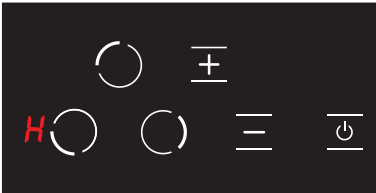

Figure 27
4. Unit switches to stand-by mode after these procedures. However, the **H** icon shall be displayed in case of a hot hob even if the unit switches to stand-by mode. (See Fig. 27)